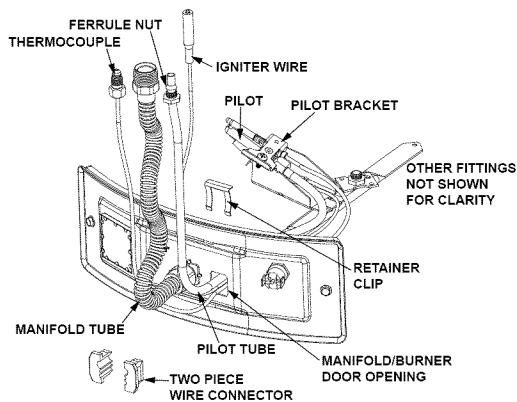

FIGURE 25.
2. Remove the retainer clip from the back of the two piece wire connector and remove the two piece wire connector from the manifold door (Figure 25).
6. Position the new thermocouple through the larger opening of the two piece wire connector (Figure 25). Be sure igniter wire is positioned through the small opening of the two piece wire connector.
2. Lift the retainer clip straight up from the back of the two piece wire connector (using a flat-blade screwdriver), then remove the two piece wire connector from the manifold door (Figure 25.)
7. Route the new pilot tube, thermocouple, and igniter wire through the manifold/burner door opening. (Figure 25)
11. Carefully bend the new pilot tube and thermocouple to match the bend of the manifold tube. NOTE: When bending DO NOT crimp or crease the pilot tube or thermocouple. (Figure 25)